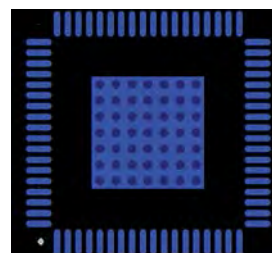

Figure 84. Exposed Pad Layout Example—Top View
- Place vias such that all layers of copper are connected, allowing for efficient heat and energy conductivity. For an example, see Figure 84, which shows 49 vias arranged in a 7 \times 7 grid in the pad area.